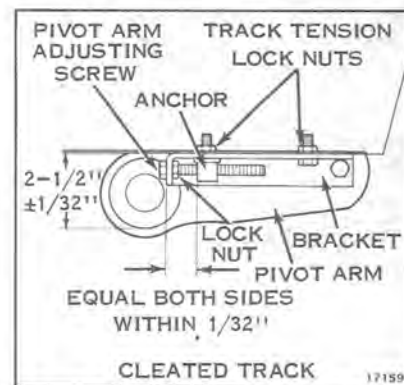

Figure 11-4
Track tension on cleated track snowmobiles is correct when the distance from the bottom of the pivot arm bearing bore to the underside of the running board is $2\text{-}1/2'' \pm 1/32''$. See Figure 11-4.
- Loosen track tension lock nuts and lock nut on pivot arm adjusting screw. See Figure 11-4.
- Measure distance from front edge of adjusting bracket to anchor. If this distance is not equal on both sides, loosen the adjustment on the side nearest to the rear until the distance from front edge of the adjusting bracket to the anchor is equidistant within $1/32$ inch. See Figure 11-4.
9. Remove four track tension locknuts. See Figure 11-4.